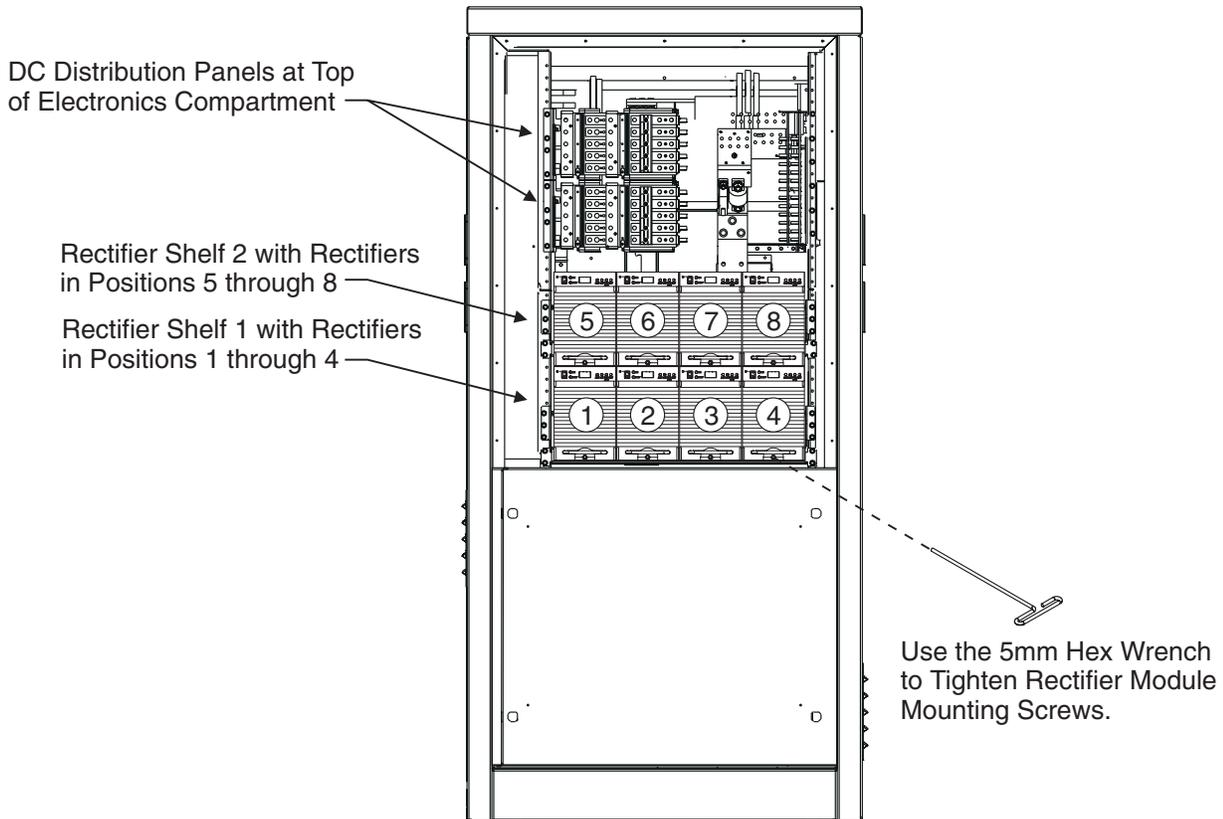

Figure 5-1: Rectifier Shelf Assignments
Locate all 596B4 rectifier modules shipped for installation with the OPS 24/800 cabinet. 2 to 8 may be equipped, depending on the load requirements. The rectifiers must be located in the rectifier shelf positions assigned to their ID number so that the AC breaker for each unit is properly identified. Refer to Figures 5-1 and 5-2 for the shelf assignments and a front view of the 596B4 rectifier.
- The 596B4 rectifiers have identification (ID) numbers associated with each rectifier for communication with the Vector controller. Each rectifier must be assigned a unique number before the Galaxy Vector Controller alarm conditions can be cleared. The rectifier ID must be assigned according to its mounting position on the rectifier shelves. The rectifier mounted in position 1 in Figure 5-1 should be ID'd rectifier 1 for the controller and so on. Set the rectifier ID with the following procedure: